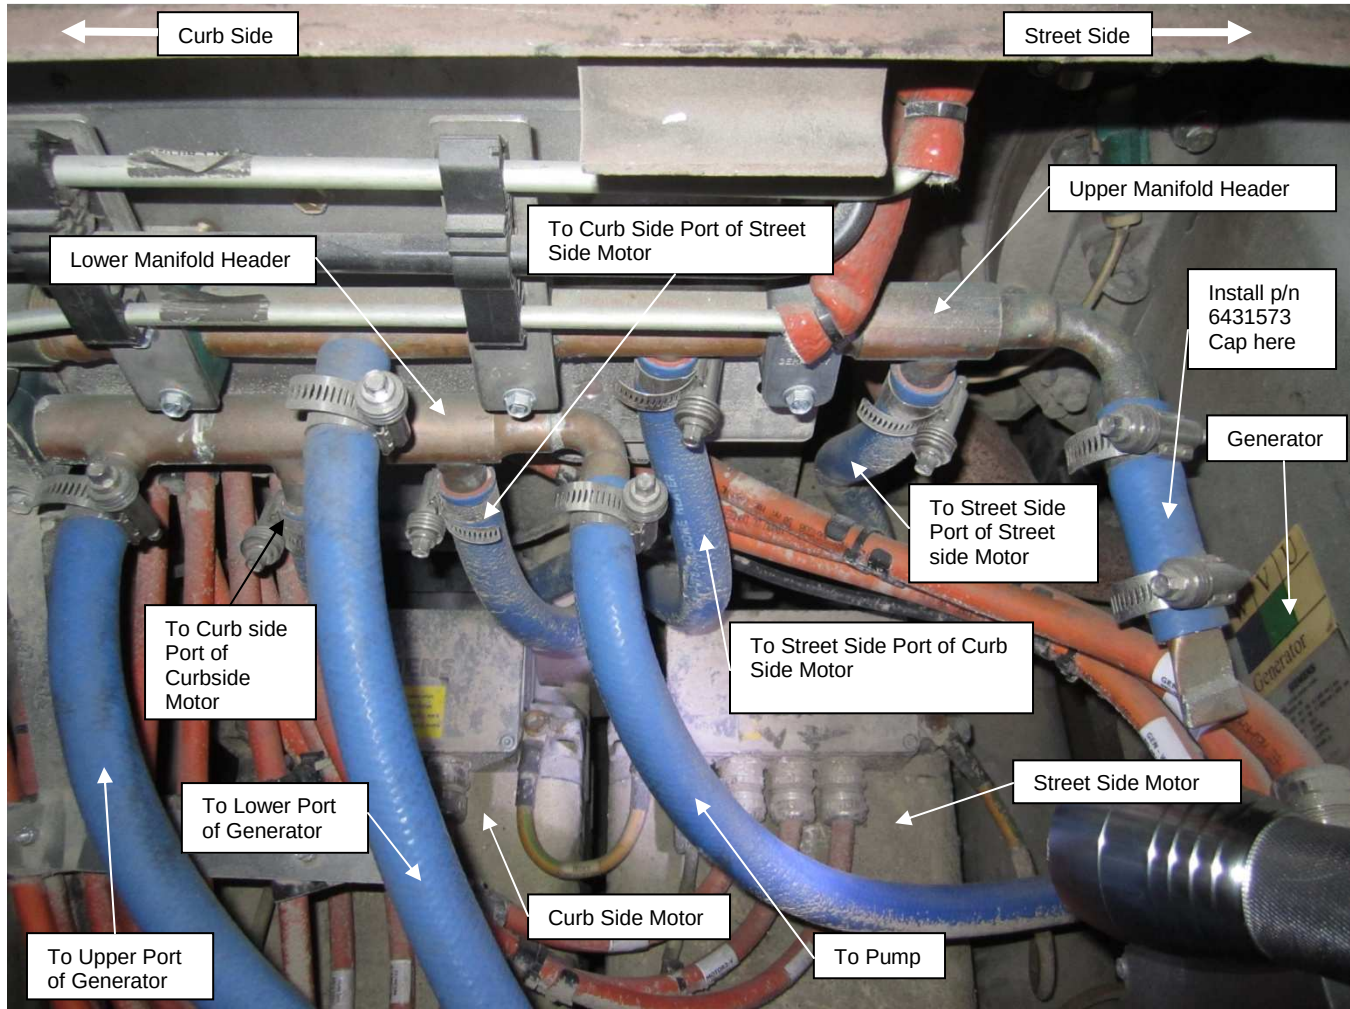

Figure 2: Hose Layout on Upper/Lower Manifold Headers
4. Locate the upper and lower coolant manifolds, generator and two electric drive motors. Figure 2.
5. Check to ensure that upper manifold header and components are plumbed as follows: Figure 2.
6. Check to ensure that lower manifold header and components are plumbed as follows: Figure 2.
9. If the hose layout at the upper and lower manifold headers does not match Figure 2 and or the bypass hose is present, the hoses will have to be reconfigured.
- b. Change the hose connections as necessary to match the configuration shown in Figure 2. Use 3/4" hose NF P/N 106197 and hose clamps NF P/N 274935 as needed. Torque hose clamps to 56-62 IN-LBS.
10. Locate the street side branch of the upper manifold. Figure 2.